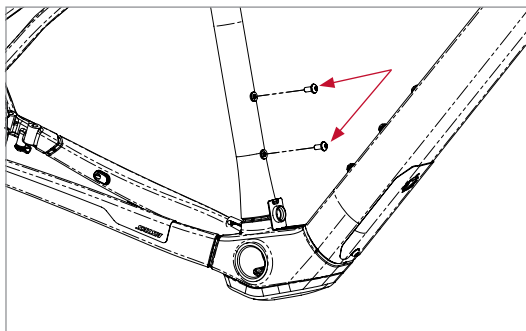

Figure 7
2. Use a 4mm hex key to remove the bottle cage bolts from the frame (Figure 7).